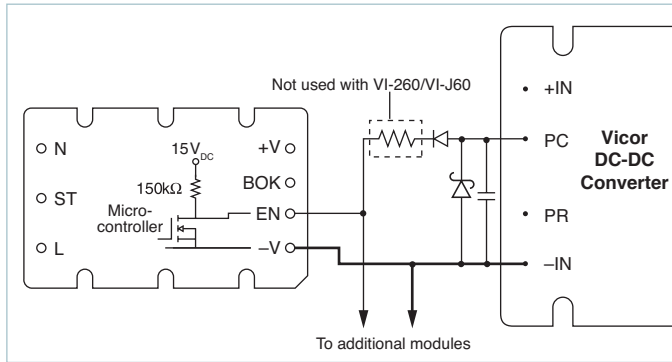

Figure 11 — Enable (EN) function; See Fig. 8 for details
Enable (EN) Pin: (See Figure 11) The Enable pin must be connected to the Gate-In or PC pin of all converter modules to disable the converters during power-up. Otherwise, the converters would attempt to start while the holdup capacitors were being charged through an un-bypassed thermistor, preventing the bus voltage from reaching the thermistor bypass threshold thus disabling the power supply. The Enable output (the drain of an N channel MOSFET) is internally pulled up to 15V through a 150k Ω resistor.